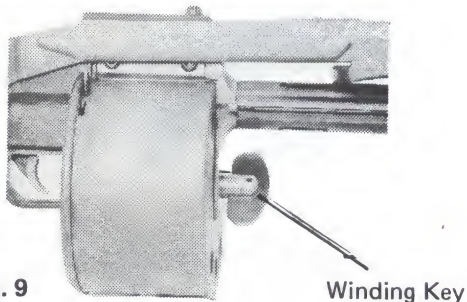

Fig. 9
- 4) Using the winding key (Fig. 9) advance magazine to next chamber position (Magazine to rotate anti-clockwise as viewed through the aperture).
- 3) Wind up spring motor until fully wound using winding key (Fig. 9). (Magazine to rotate anti-clockwise as viewed through the aperture (Fig. 8).
- 7) Wind up spring motor until fully wound using winding key (Fig. 9). (Magazine to rotate anti-clockwise as viewed through aperture).
- 4) Advance the magazine by turning the winding key (Fig. 9). (Magazine to rotate anti-clockwise as viewed from the aperture).
- 3) Wind up spring motor until fully wound using winding key (Fig. 9). (Magazine to rotate anti-clockwise as viewed from the aperture).